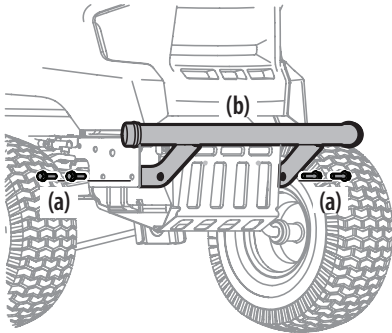

Figure 15
1. Remove the four hex screws (a) from the bumper (b). See Figure 15.
2. Position the bumper brackets to the inside of the tractor's frame and secure it in place with the four hex screws (a). See Figure 15.